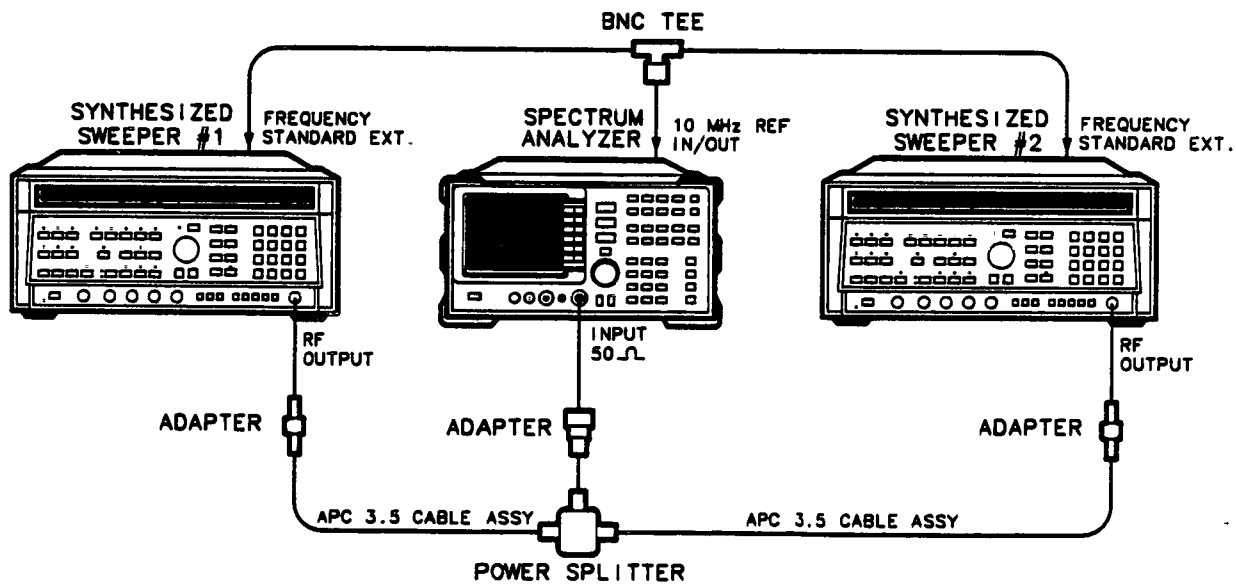

Figure 3-19. Frequency Span Accuracy Test Setup
1. Connect the equipment as shown in Figure 3-19. Both HP 8340A's should be set for EXT FREQUENCY STANDARD. Connect the power splitter directly to the analyzer's INPUT 50Ω. Do not use a cable.